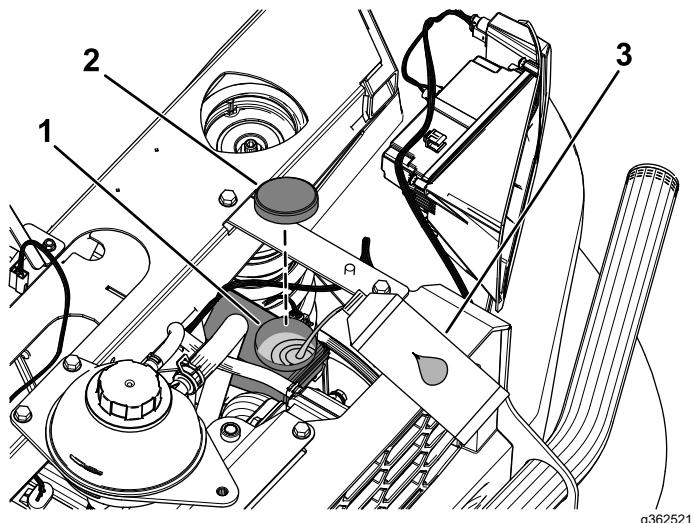

Figure 122
- A. Clean the area around the reservoir cap and remove the cap (Figure 122).
- C. Install the reservoir cap (Figure 122).